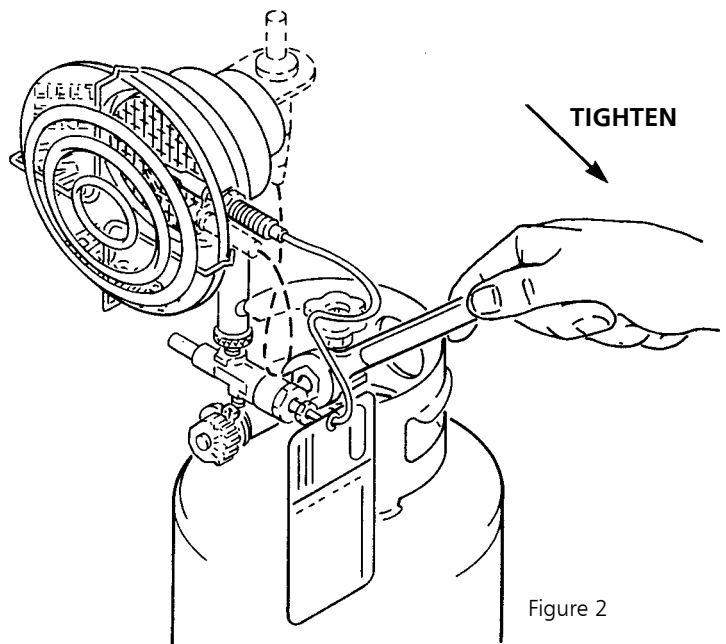

Figure 2
- 2.3 Make sure bulk tank is on a flat surface in the outdoors or a well-ventilated area and complete mounting with a 7/8" open end wrench (see Fig. 2) turning counterclockwise (left hand thread) until tight, see Para. 5 for additional assembly procedure.
- B. Carefully screw POL nut directly into bulk 20 lb. propane cylinder, counterclockwise. REMEMBER – This is a left hand thread – see Figure 2. Make sure the heater is in a vertical upright position and directed away from the collar of the bulk tank. Use a 7/8" open end wrench to tighten the POL fitting – left hand thread – see Fig. 2.